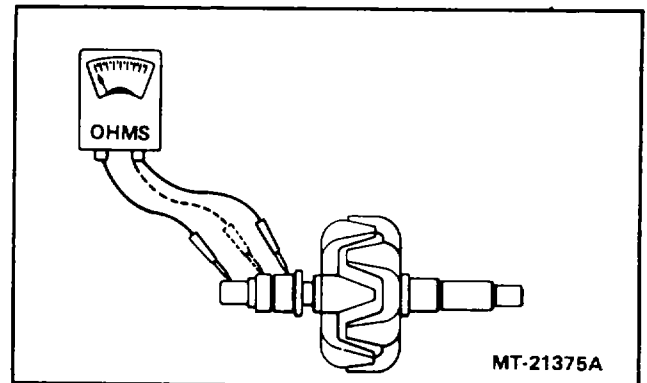

Figure 18 - Rotor Coil Ground Test.
- With the ohmmeter connected between the rotor shaft and either slip ring, no reading (infinity) should be obtained. If an ohmmeter reading other than infinity is obtained, the rotor coil is grounded and the rotor must be replaced (See Figure 18).